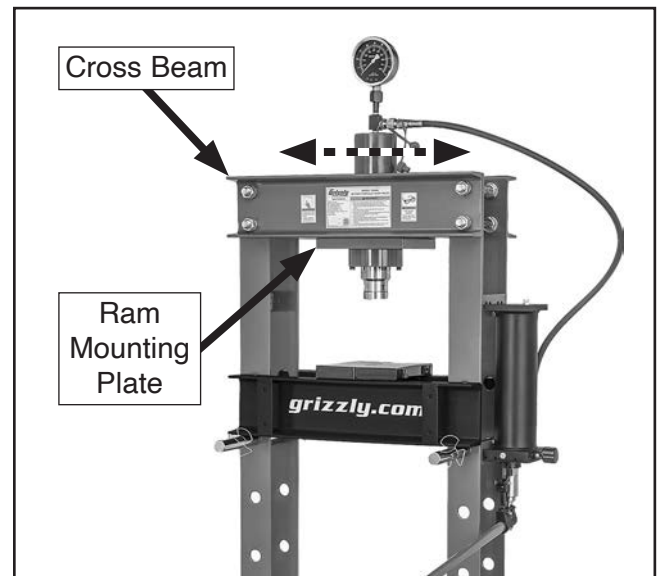

Figure 20. Movement of hydraulic ram along cross beam.
4. Place workpiece on press bed and roll ram mounting plate along cross beam until it is directly above workpiece press point (see **Figure 20**).